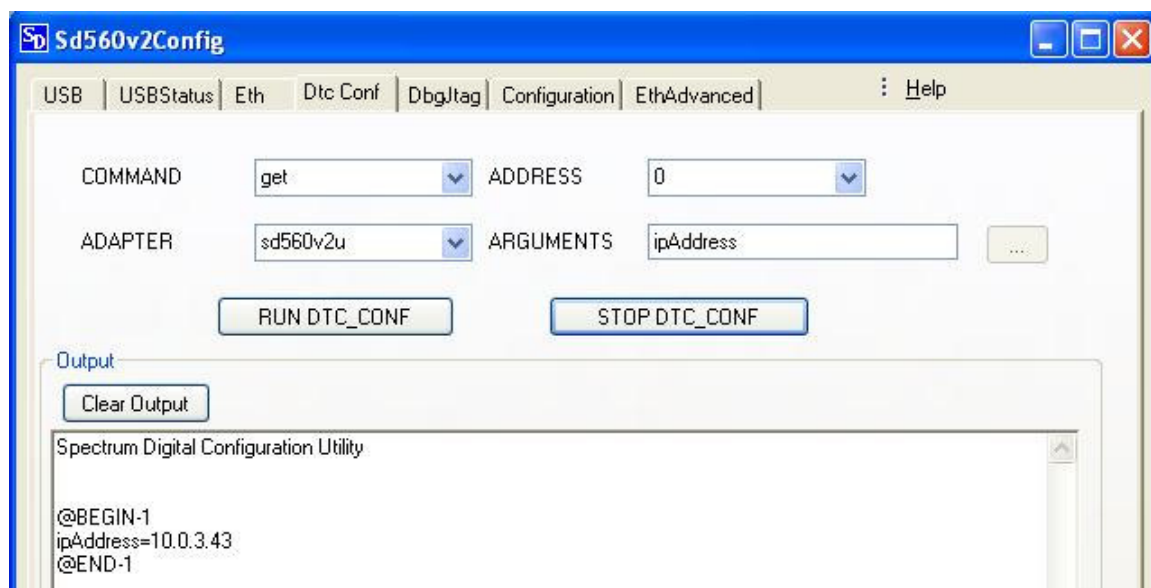

FIGURE 14: Sd560v2Config – DtcConf tab to get Ethernet ipAddress.
5. Click on RUN DTC_CONF. A sample output is as shown in figure 14 below.